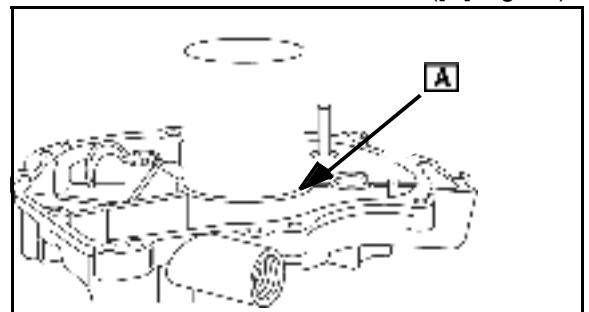

Fig. 28
3. Press bearing into place until it is flush with the surface of the cover ([A] Fig. 28).